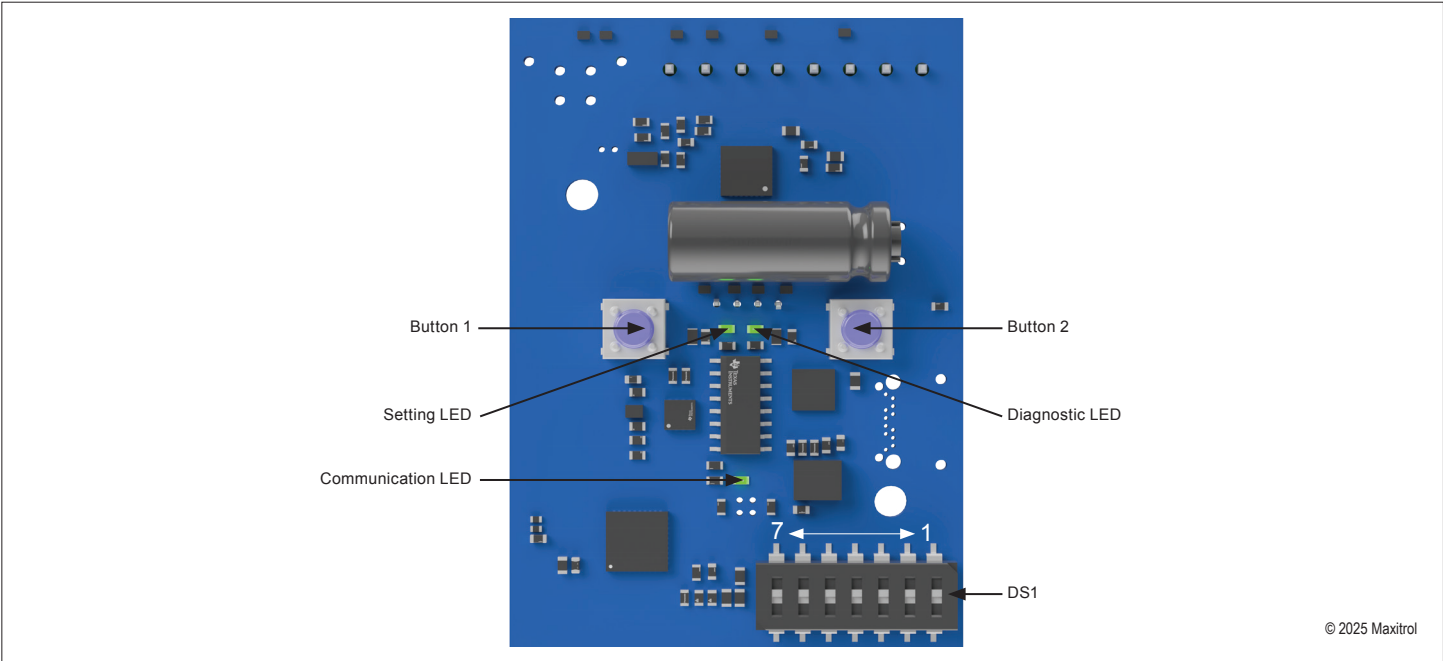

Figure 3: EXA Series Modulating Valve PCB Interface
Step 3: Set DS1-2 to fuel type (see Figure 3, page 5; Table 7, page 4).
Step 4: Set dip switches to match desired control signal input (see Figure 3, page 5; Table 8, page 4).
EXA Series modulating valves connected to a Modbus communication system can program the high fire and low fire settings by writing to assigned register addresses. Transmission is over RS485. A Communication LED flashes during data transfers (see Figure 3, page 5).